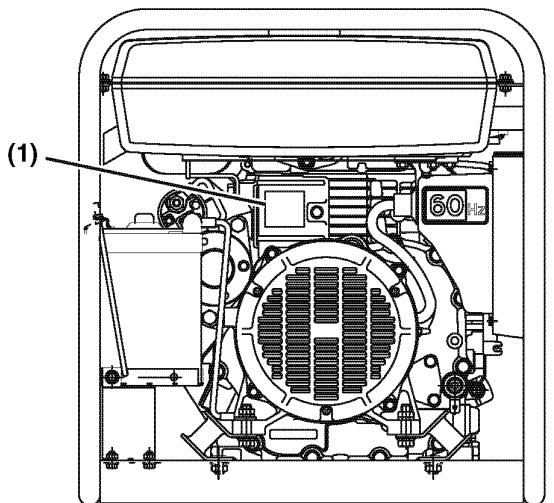

Figure 4-7
The engine nameplate (**Figure 4-8**) is located (**Figure 4-7, (1)**) on the cooling shroud on the PTO side of engine above the starter.